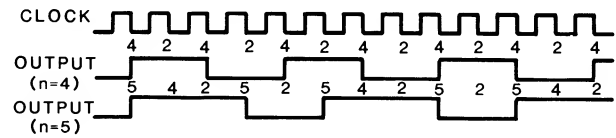

Figure 14-12. Timing Mode 3
**Mode 3** — In this mode, the counter is decremented by two each clock cycle, rather than one, effectively halving the time it takes to reach zero. Refer to Figure 14-12.